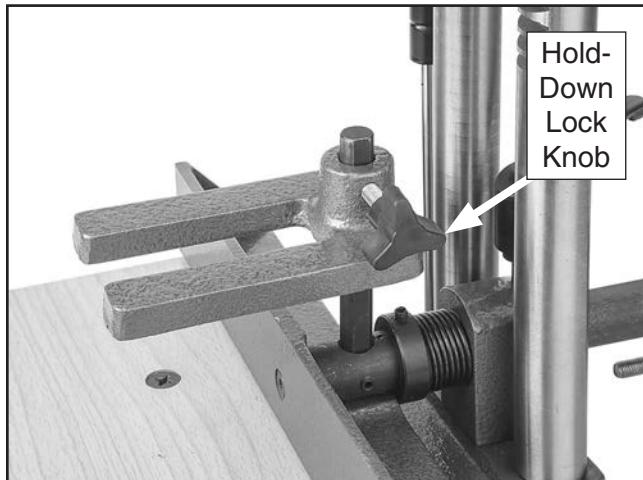

Figure 23. Low hold down position.
2. Loosen hold-down lock knob, and adjust hold-down to $1/16$ " above top of workpiece. This allows workpiece to move horizontally for making multiple mortises. Secure hold-down with lock knob (see **Figure 23**).
Note: When placed in position shown in **Figure 23**, hold-down will accommodate a workpiece slightly taller than the fence. The hold-down may also be flipped over to secure thicker workpieces.